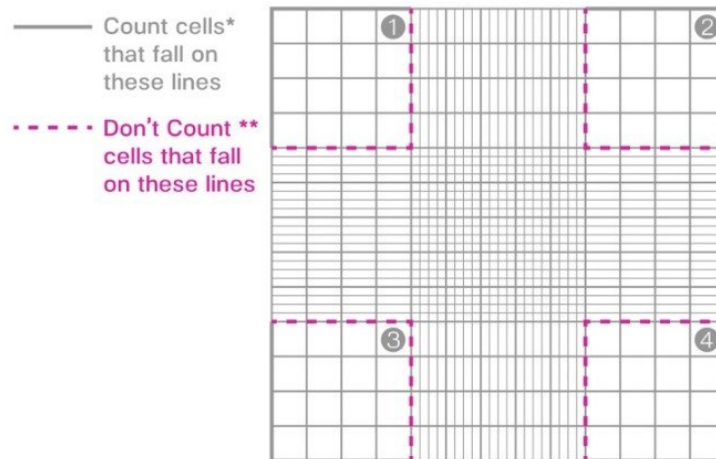

Figure 6. Example hemocytometer
1. Count both viable and non-viable cells in each quadrant of the hemocytometer (see Figure 6).